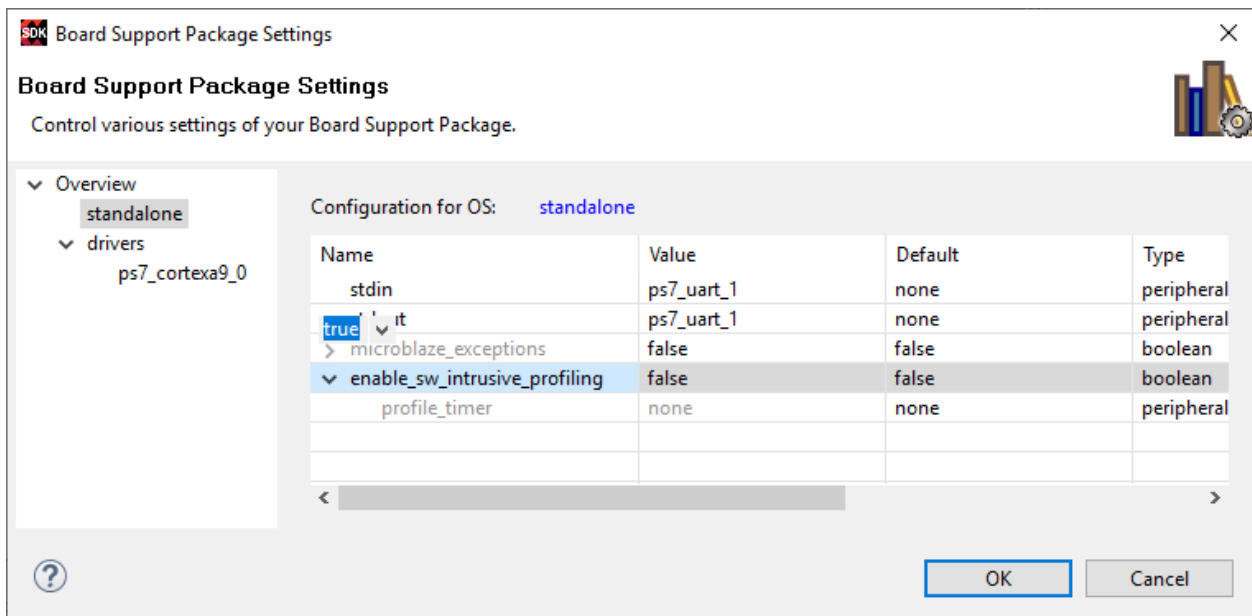

Figure 38: Board Support Package Settings window.
5. The Board Support Package Settings window will appear. Select **Overview** → **standalone**, click on the drop-down arrow over the `enable_sw_intrusive_profiling` *Value* field, and select **true**, as shown in Figure 38.